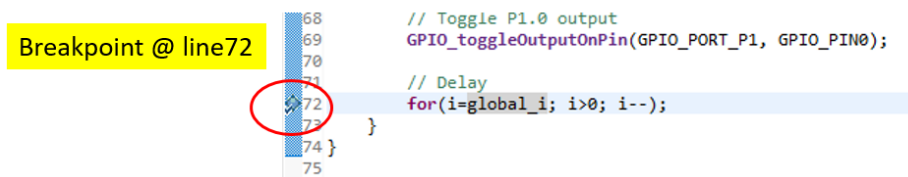

Fig 14: Breakpoint
**#Task:** Put a breakpoint at the "for loop" as shown in Fig 14. CCS will stop the processor execution whenever it hits a breakpoint. This feature allows user to halt the processor at a point within the code for analysis purpose. To set a break point, position the cursor at the target source line and press "Ctrl+Shift+B". There are other ways to set a breakpoint within CCS, you are welcomed to explore. A small blue round icon will appear to the left of the line number when the breakpoint is set successfully. See Fig 14.